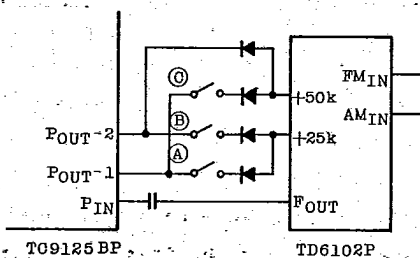

Fig. 8
- 3) Connection of TC9125BP and TD6102P is shown in Fig.8.